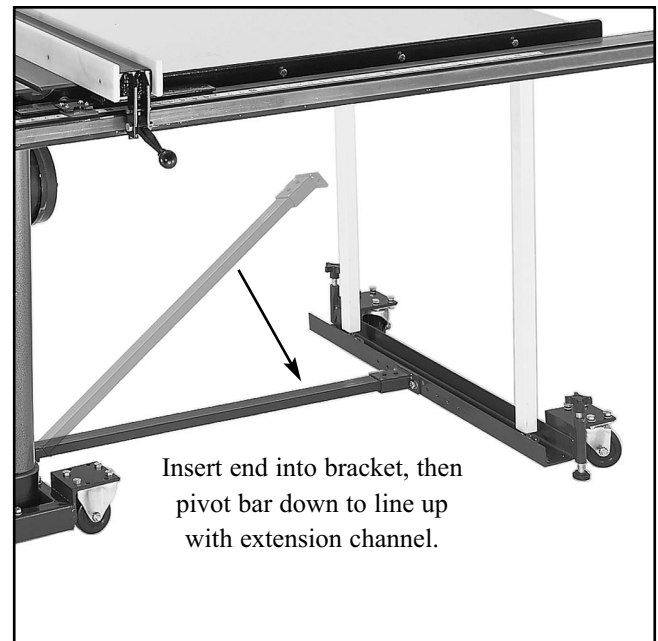

Figure 7. Attaching extension bar.
4. Slip one end of the extension bar into the bracket on the Mobile Base side rail. On the other end, position the mounting bracket onto the end of the bar. Lower the bar down into position and align the bracket with the threaded holes on the side of the channel. **See Figure 7.** It may be necessary to slightly reposition the channel assembly back and forth to align the bracket with the holes. Assemble the mounting bracket to the side of the extension channel using two bolts. The holes in the side of the channel are threaded so only a washer and lock washer are required.